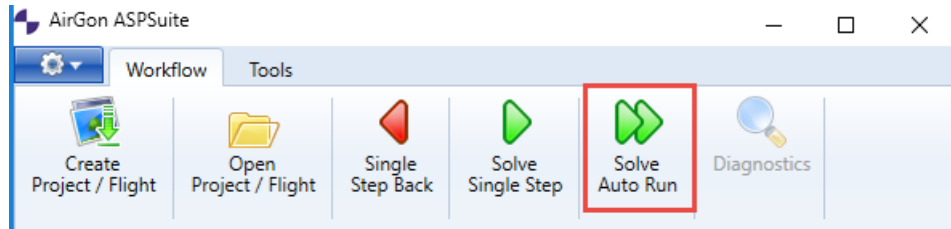

Figure 21 - Auto Run
16. When the data import is complete, all of the files will now be in your ASP Project folder. Click the button to *Solve – Auto Run* (Figure 21). Each of the steps are then run automatically one after the other.